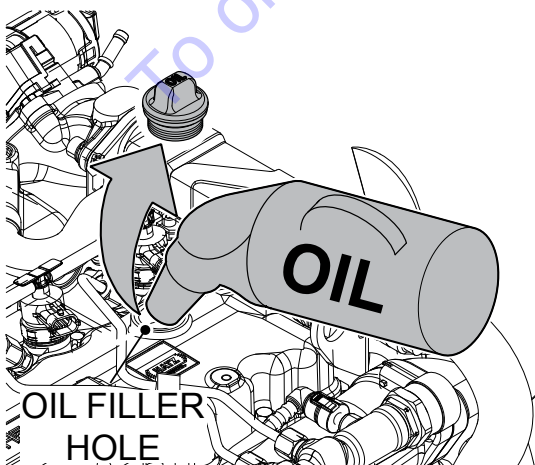

Figure 8. Engine Oil Filler Hole (Top)
5. If the oil level is close to the "min." mark, add engine oil to the "max." mark through the oil filler hole. Depending on accessibility, use top oil filler hole (Figure 8) or bottom filler hole (Figure 9).